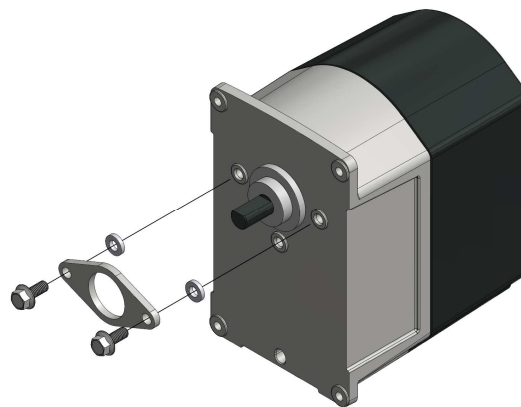

Figure 4: Seal Retainer Installation
4. Place an M5 x 12mm thread-forming screw through each hole in the seal retainer. Slide an M5 spacer over the end of each M5 x 12mm thread-forming screw. Slide the current assembly over the actuator shaft so that each M5 x 12mm thread-forming screw lines up with one of the three holes in the bottom of the actuator as shown in Figure 4. The seal retainer should slide over the shoulder on the shaft seal. Using the 8mm nut driver (or socket), tighten the two M5 x 12mm thread-forming screws until the M5 spacers are captured between the seal retainer and the bottom of the actuator. **Do not overtighten the M5 x 12mm thread-forming screws.**